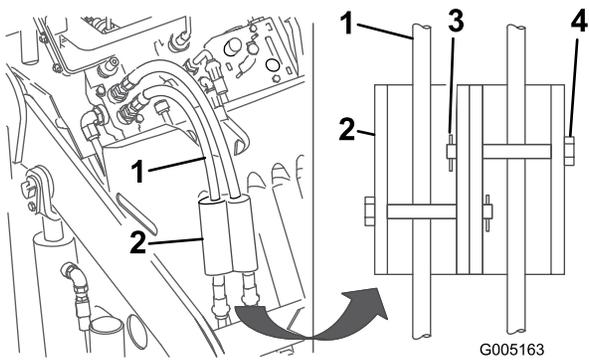

Figure 20
7. Install the cylinder locks over the hydraulic hoses and secure them with the clevis pins and cotter pins (Figure 20).